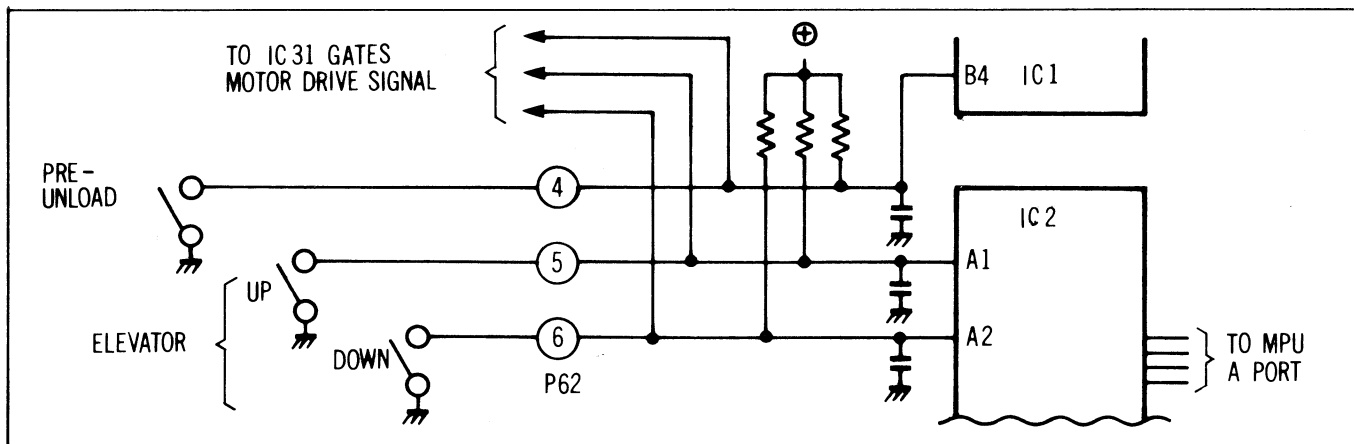

Figure 2-19
The limit and safety switches include the Elevator Up and Down limits; the Pre-loading, Unloading and Loading switches, the KC/KCA and Record Inhibit switches, the No Cassette and Cassette Position (2) switches, the Skew Cam Sense switches and the Pressure Roller switch. See Figure 2-19.